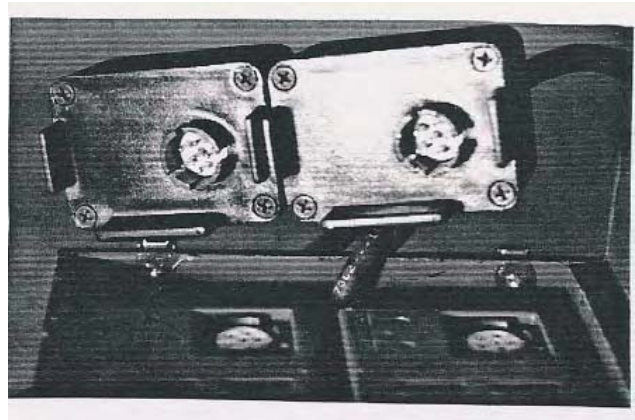

Figure 16. MCH-100 Battery Connection
b. Push fit the battery connector onto the batteries. It fits only one way. Figures 16 and 17.